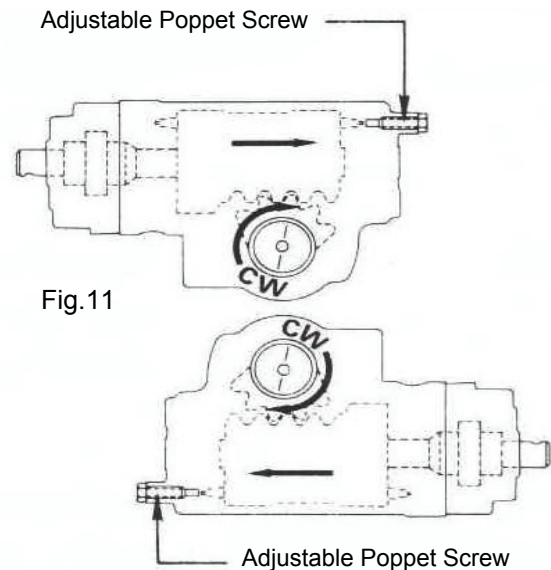

Fig.11
To position the rack piston for resetting poppets, observe the end of sector shaft (42) for direction of travel. With the engine idle, have the steering wheel rotated direction necessary to rotate the sector shaft towards the end of travel (axle against axle stop) clockwise (cw) or counter clockwise (ccw) that will position the rack piston toward the adjustable poppet screw (41) at the closed end of housing (31) by referring to figures 11 & 12. When the initial internal engagement of poppet adjuster seat and sleeve assembly (22) and adjusting screw is felt, evidenced by torque rise at the steering wheel, continue the steering wheel rotation until the axle stop is contacted. The upper poppet adjuster seat and sleeve assembly (22) is now pre-set internally for automatic adjustment to the related axle stop.